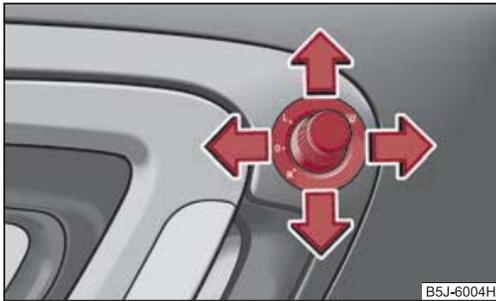

Fig. 49 Inner part of door: Rotary knob
- Turn the rotary knob to position  => fig. 49.